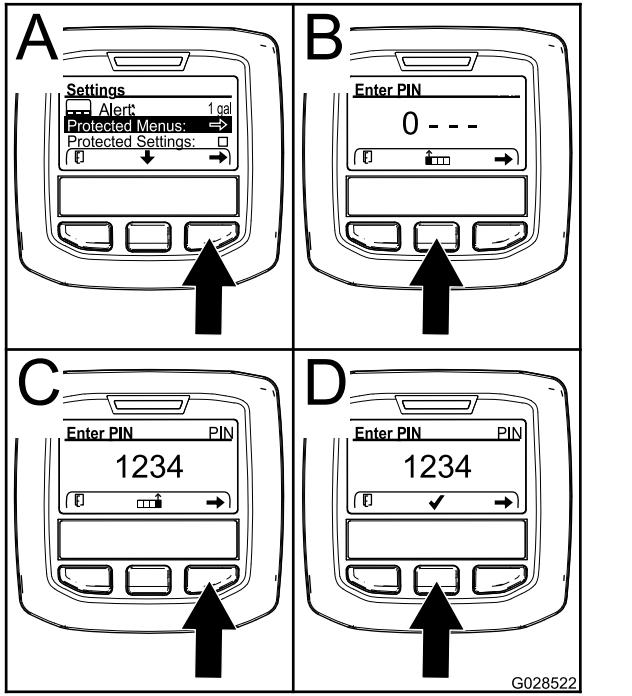

Figure 61
3. Press the right select button to select Protected Menus (A of Figure 61).
- Press the center selection button (B of Figure 61) to increase the numerical value (0 to 9)
- Press the right selection button (C of Figure 61) to move the cursor to the next numerical position to the right.
Note: The checkmark icon will appear above the center selection button (D of Figure 61).
6. Press the center selection button (D of Figure 61) to enter the password.